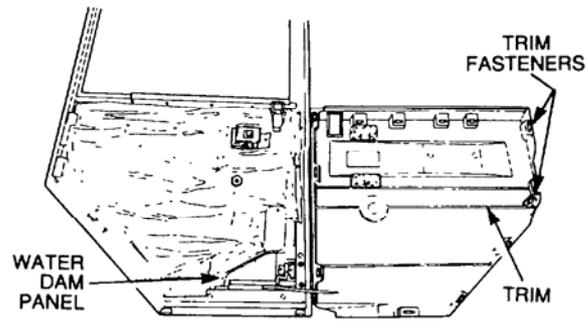

Figure 15 Rear Side Door Trim Removal
- k. Remove the trim (refer Figure 15).